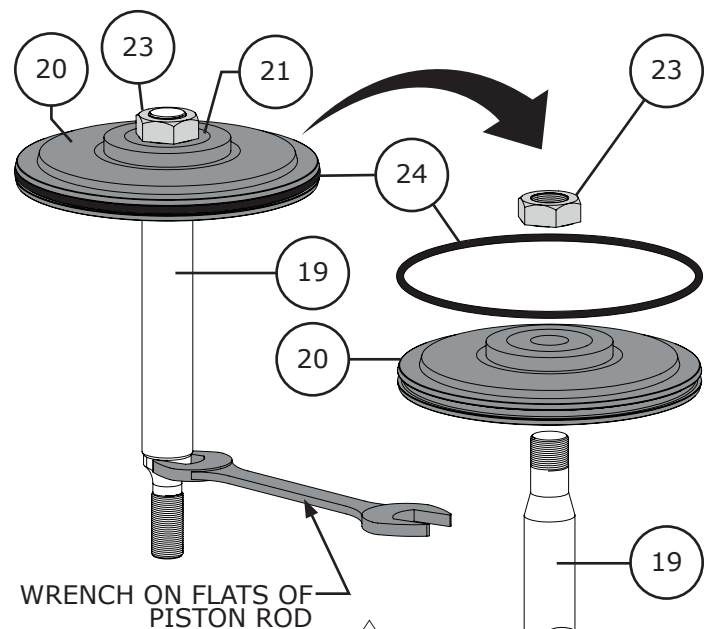

Figure 17 Piston Rod Disassembly (Size 113 & 154)
- A** Keep the piston rod (Key 19) from twisting during disassembly with either a wrench on the flats or a wrench placed on two jam nuts. Remove the hex nut or cap screw (Key 22 or 23) from the top of the piston rod. **Note:** Actuator sizes 018 to 112 use a washer (Key 21) and a cap screw in place of the hex nut. Refer to Figures 17 and 23 for more detail.